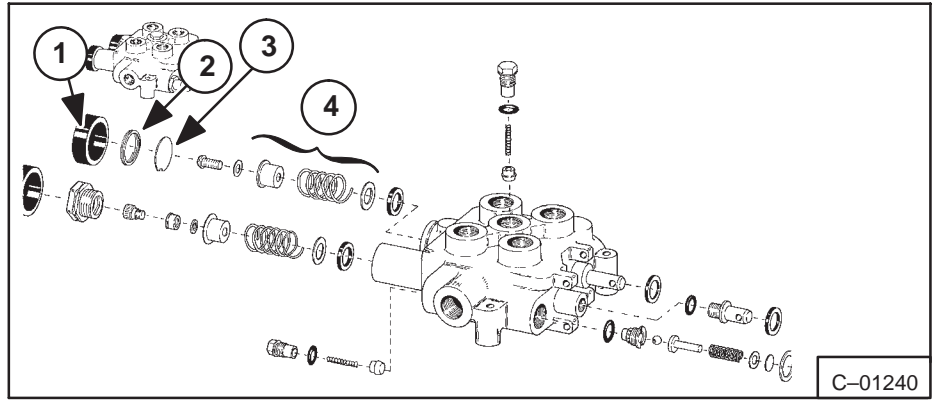

Fig. 4-18 Lift and Auxiliary Valve Parts
8. Move spool back to install new back seal (Fig. 4-18).
4-17 CONTROL VALVE SEAL INSTALLATION (Fig. 4-18, 4-19) (For Tilt, Lift Valve and Auxiliary Cylinder Control Valve)
15. Install spring assembly bolt, spring, lock washer, stop collar, spring and lock washer (Fig. 4-18, 4-19).
17. Install stop disc and snap ring (Fig. 4-18, 4-19, Item 2 & 3).
18. Install rubber cap (Fig. 4-18, 4-19, Item 1).